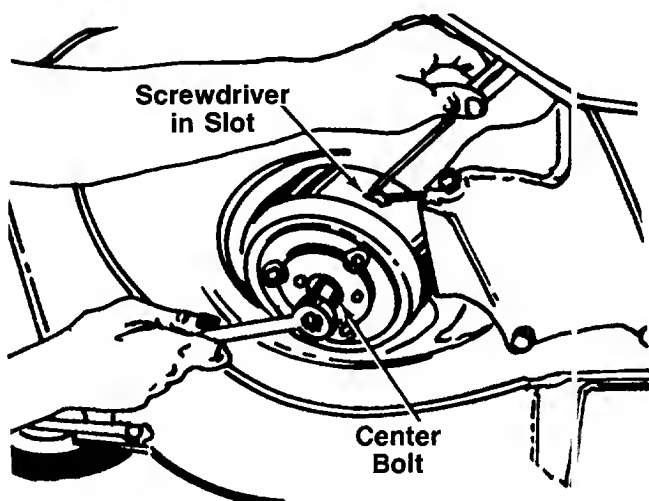

FIGURE 15.
- a. Insert a screwdriver into the slot provided in the blade brake/clutch housing where the control cable enters housing. See figure 15.